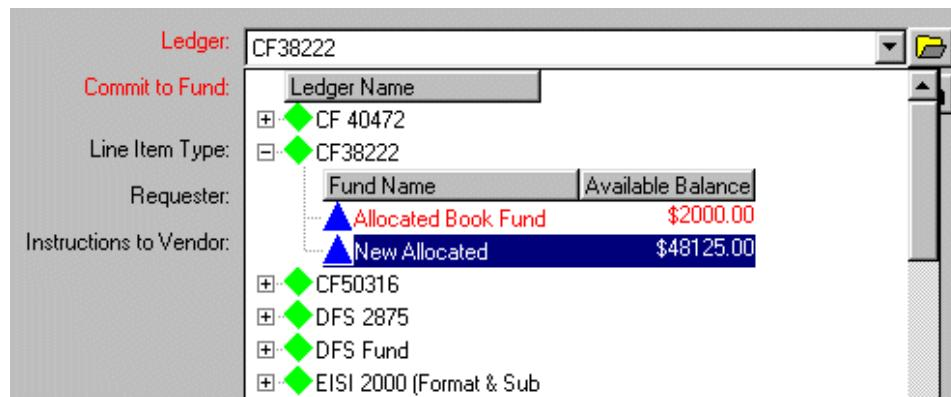

Figure 6-53. Ledger/Fund hierarchy displayed in the Ledger field
- If you want to select a fund from a ledger/fund hierarchy (Figure 6-53) rather than typing the fund code into the **Commit to Fund** field, click the **folder** button beside the **Ledger** field. This displays a hierarchy of available ledgers and funds. To aid you in selecting an appropriate fund, each fund's available balance displays within the hierarchy.